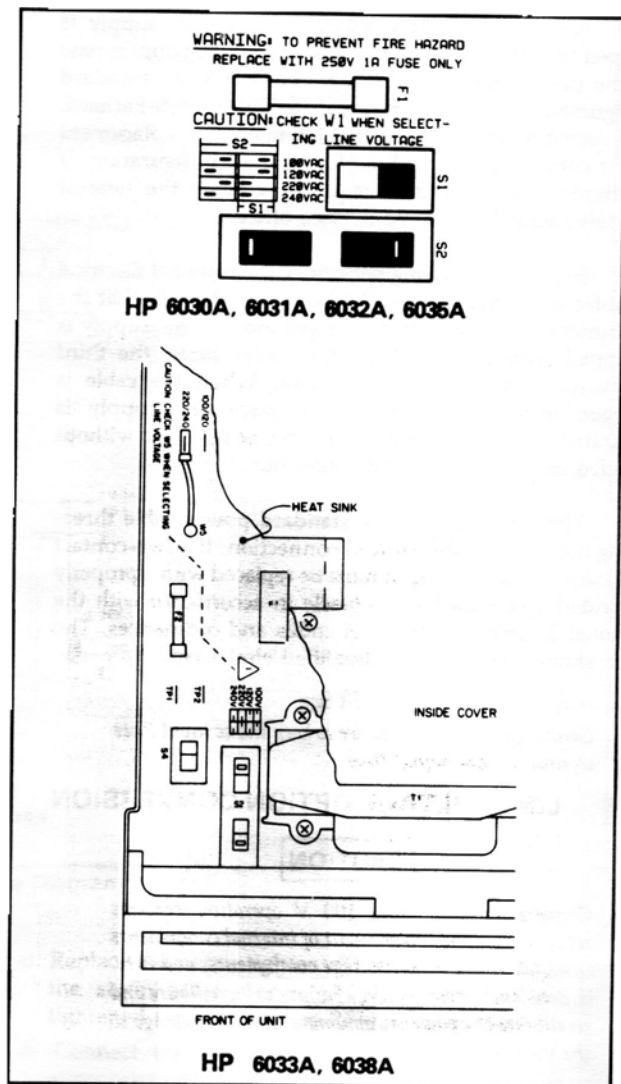

Figure 2-3. Line Voltage Conversion Components
- b. The line voltage select switch (S2) is located in the front left corner of the supply (see Figure 2-3). Use a small-blade screwdriver to set the two switch sections to match the pattern silkscreened on p.c. main board as shown in Figure 2-3. For example, to set switches for 120 V operation (as illustrated), move forward switch section so that its white slot is toward front of supply and move rearward switch section so its white slot is toward rear of supply.